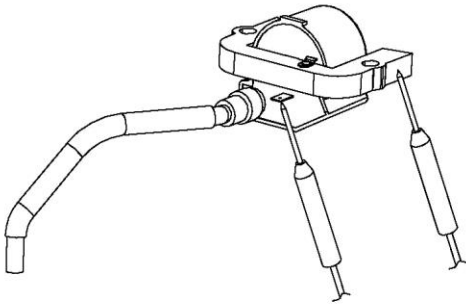

Figure 4-10: Primary Ignition Coil Test
1. See Figure 4-10. Place one test lead on the ignition coil primary terminal and one on the coil ground as shown to measure primary coil resistance. Be certain grounding point is clean in order to obtain an accurate reading.